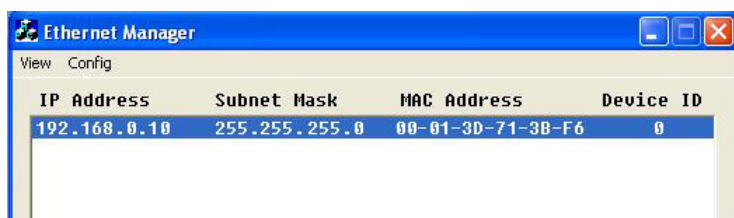

Figure 3
1. Double click the **Etm_3264bit** file under the **IP_Search_Utility** folder in your driver CD to activate the tool, it will detect the existence of the installed device server and the device server's display status, such as IP address, subnet mask, MAC address, and device ID, see **Figure 3**.